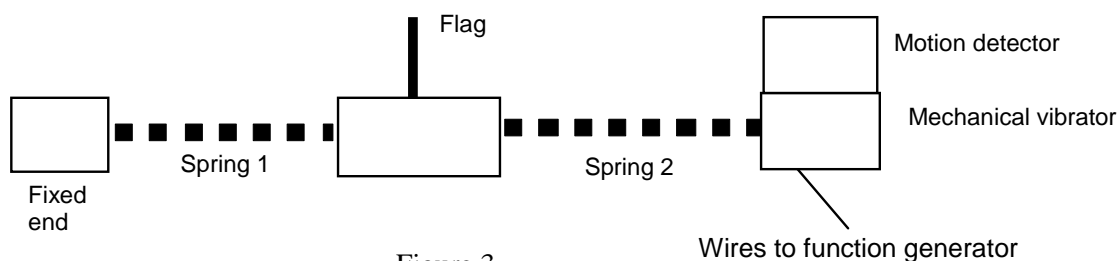

Figure 3
1. Remove the force probe and string connected to the flag from the previous experiment. The setup is like that shown in Figure 3. Now we want to examine the free oscillations of this system.